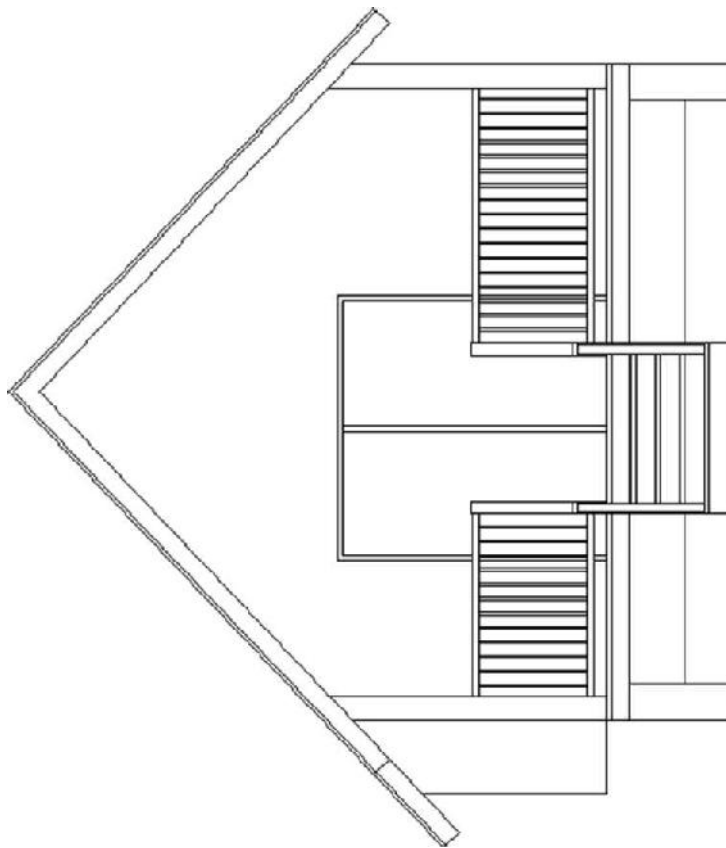

FIGURE 16.72: The east elevation
5. Click the Top face of the ViewCube to change the view orientation of your drawing, and then zoom in to your east elevation (see Figure 16.72).